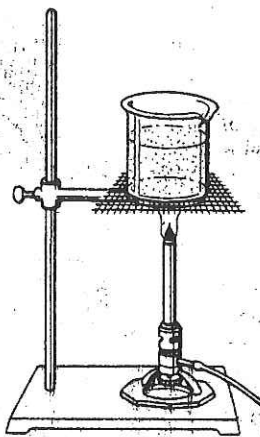

Figure 4. Heating a liquid in a beaker.
- Place a beaker one-half filled with water on a wire gauze resting on the iron ring. (See figure 4)